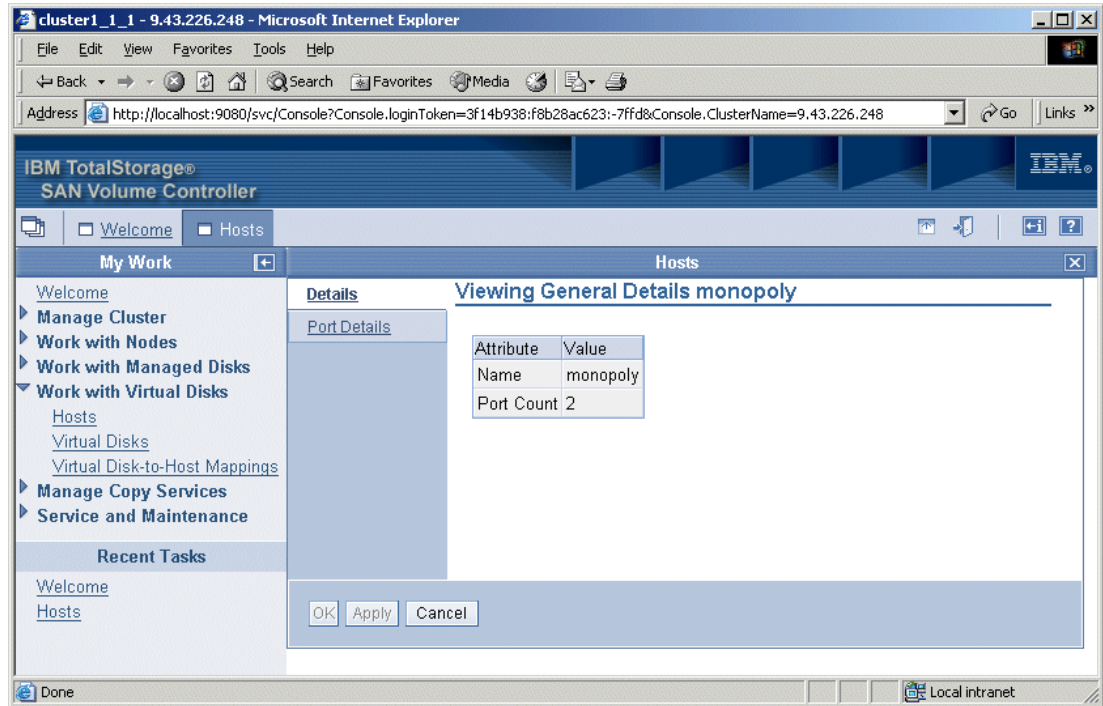

Figure 9-52 Host details
2. On the Viewing General Details panel (Figure 9-52), you can see more detailed information about the specified host. You can click the **Port Details** link to see information about the Fibre Channel Host Bus Adapters (HBAs) that were defined within the host.